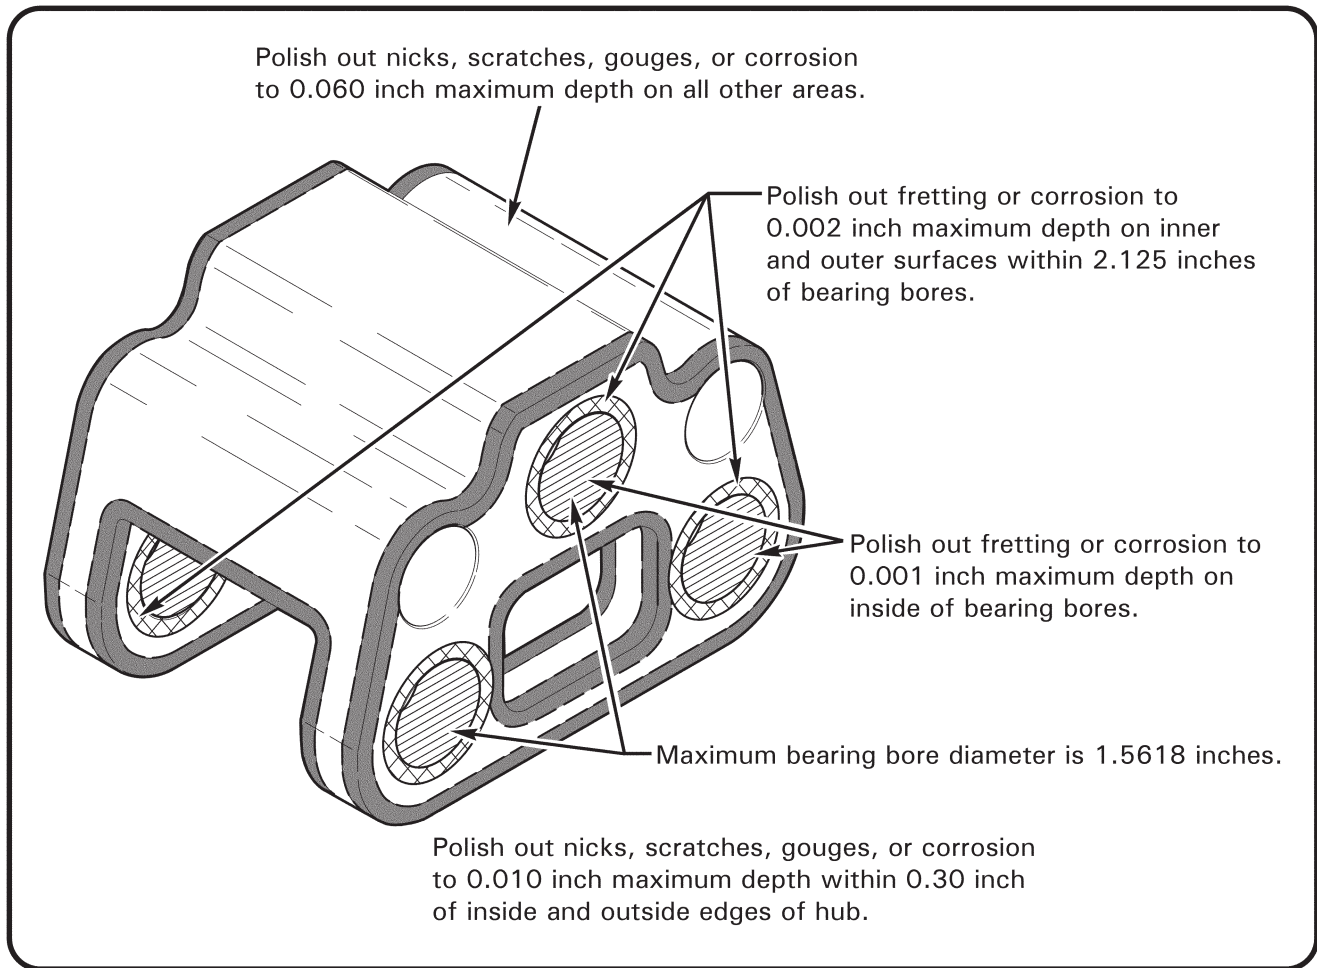

FIGURE 28-6 MAIN ROTOR HUB REPAIR LIMITS
3. Refer to Figure 28-6 If required, polish surfaces using 320-grit or finer aluminum-oxide abrasive paper to 0.25 inch minimum blend radius.